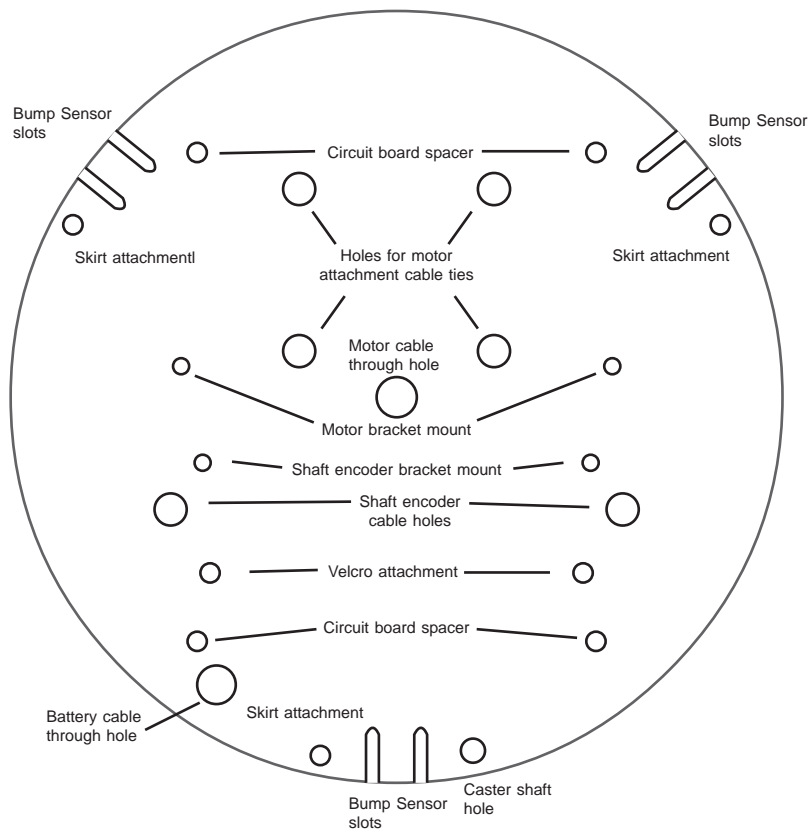
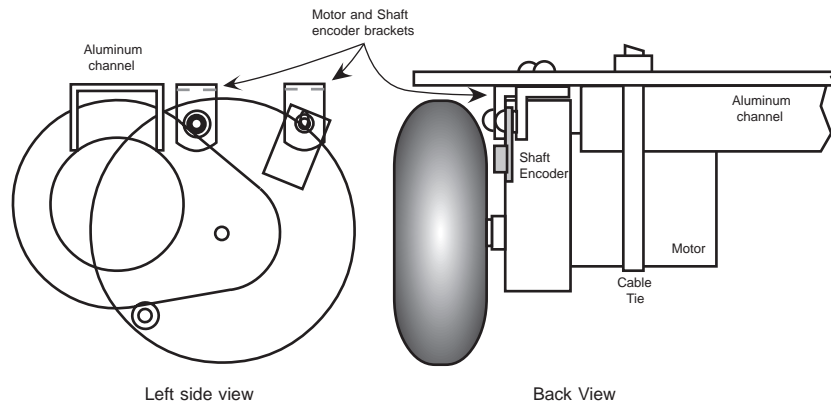

Figure 4.6: Function of the holes in the chassis plate (top view).
Figure 4.7: Detail of the motor/chassis attachment.
Be very careful to the orient the chassis plate as shown in Figure 4.6 when attaching components. The figure is a top view—motors and related components attach below the chassis plate; bump switches and the circuit board are attached above the plate.
- Place a piece of electrical tape across the back of each shaft encoder board. Put a 3/8-inch, 4-40 screw through the encoder board's mounting hole from the top. Place two #4 washers on the screw, then secure to the mounting bracket with a 4-40 nut. See Figure 4.7. The second assembly should be a mirror image of the first.
- Loosely attach the motor/bracket assemblies to the underside of the chassis plate using 3/8-inch-long 4-40 screws, 4-40 nuts, and #4 washers. See Figure 4.6 to identify the correct holes. Figure 4.7 shows motor and shaft encoder mounting details.